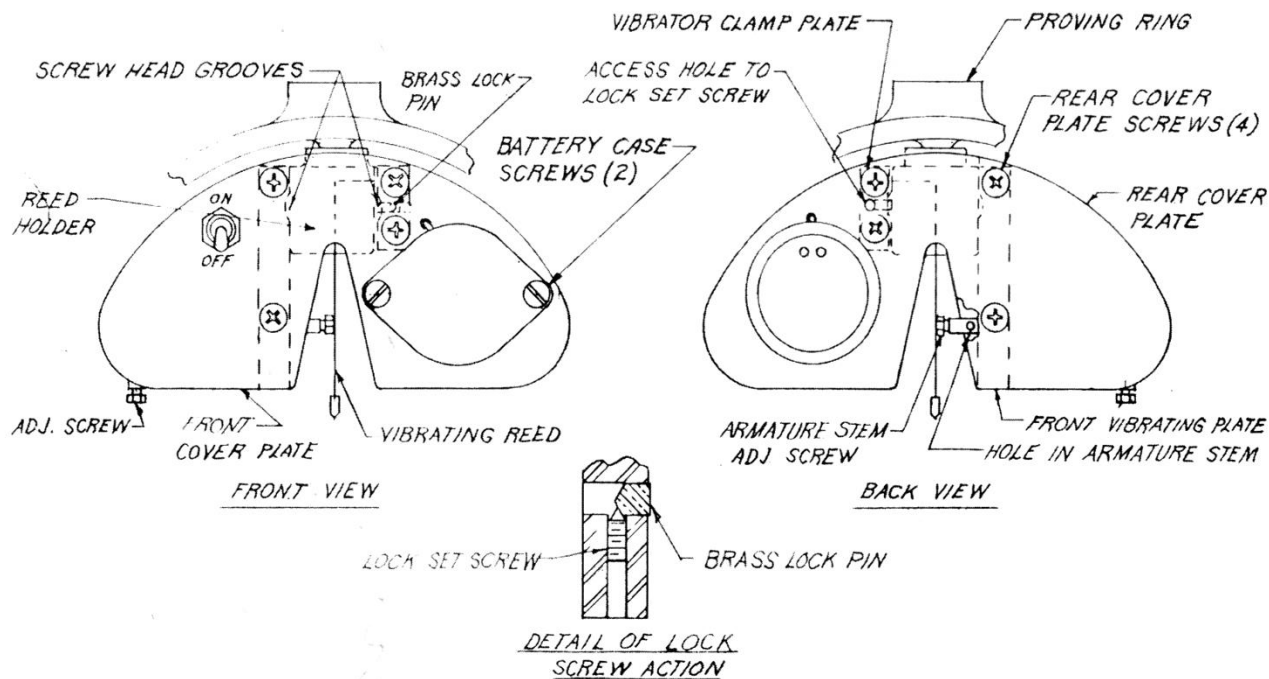

Figure 6-4: *Detail of electric reed vibrator.*
2. Refer to Figure 6-4, and notice the detail of the lock setscrew. The setscrew has a cone end which bears on the cone end of the brass lock pin. Turning the setscrew in forces the lock pin against the side of the reed holder. This action forces the electric reed vibrator square with and against the reed holder.